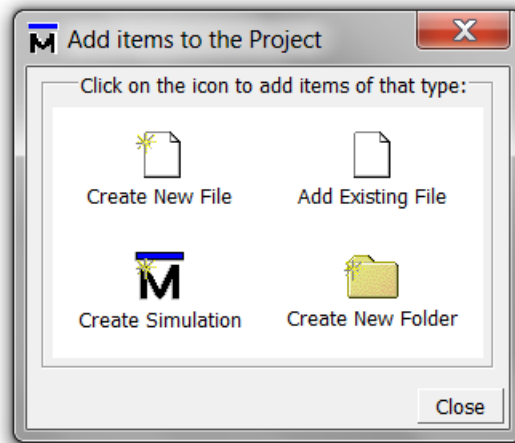

Figure 12. Add items dialog
7. The Add items to project dialog appears (See figure 12). In the previous section we described the comparator we are going to implement and we gave you the VHDL code for it. Right now we are going to create a new VHDL file and copy-paste the given code to it. Click **Create New File**.